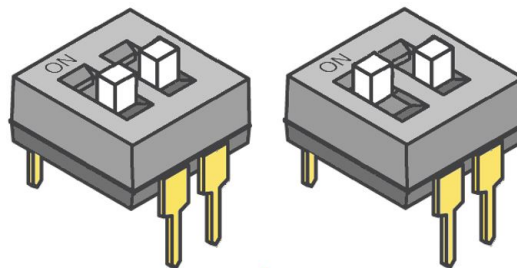

Figure 4-2. Switches
**WARNING:** There aren't any differences between the two switches pictured in Figure 4-2. It doesn't matter which is "ON" and it is enough to activate only one.